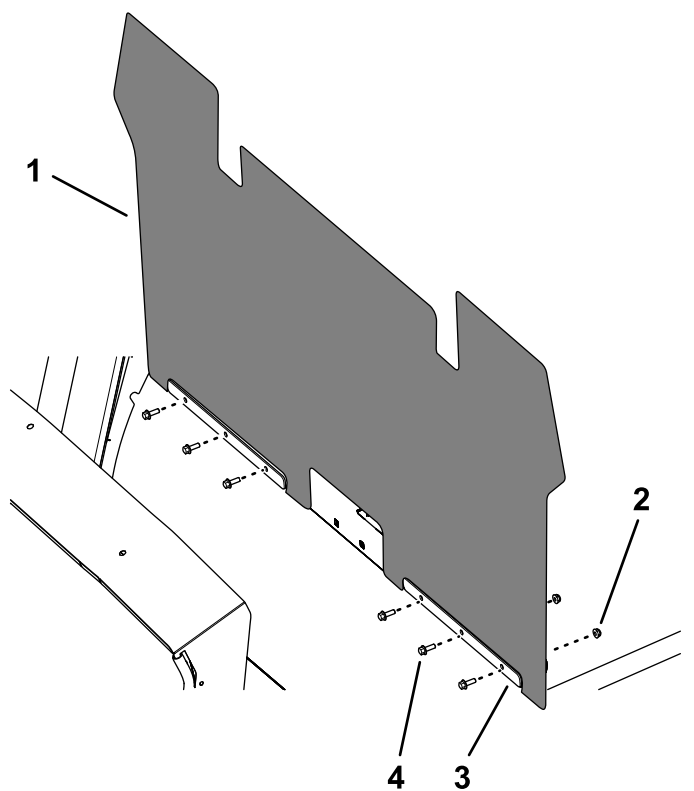

Figure 22
2. Install the inner fender and fenders straps using 6 hex-head flange bolts (1/4 x 3/4 inch) and 6 flange nuts (1/4 inch) as shown in Figure 22.